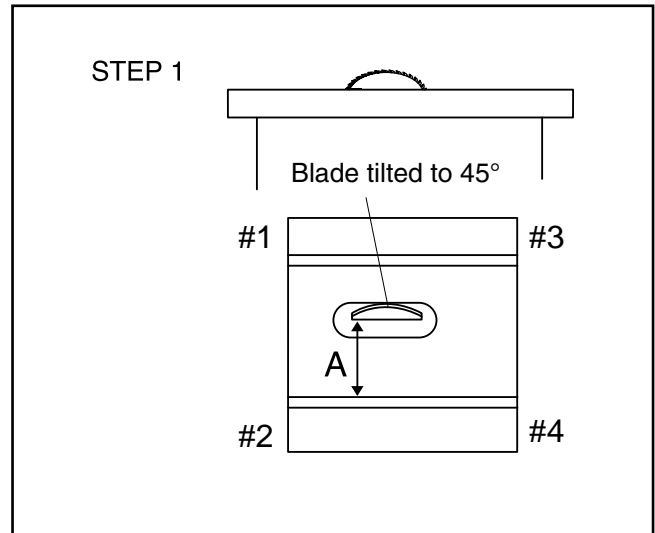

Figure 24. 45° blade parallelism.
10. Refer to **Figures 24 and 25**, for shim placement. If the distance of A is longer than B, shim(s) will need to be placed under corners #1 and #2. If the distance of B is longer than A, shim(s) will need to be placed under corners #3 and #4. Very thin shim stock works well, just make sure they are all the same thickness, and you put an equal number under each of the two corners.